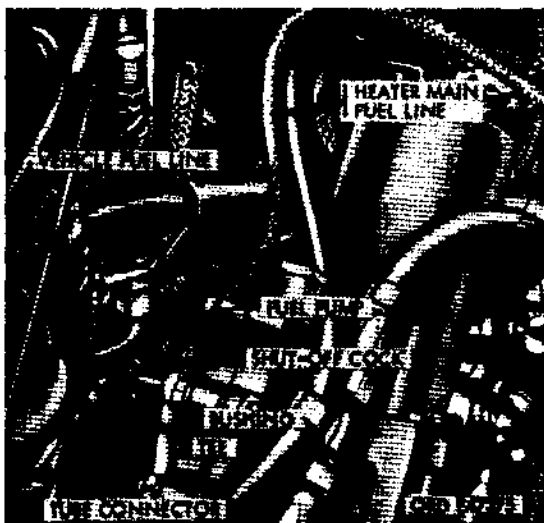

Figure 586. Heater main fuel line connected to fuel pump outlet
a. Install Heater Fuel Line (Fig. 586). Connect the heater fuel line to the fuel pump outlet
- (1) Disconnect the engine fuel line at the outlet of the fuel pump (fig. 586). Remove the tee from the heater main fuel line (fig. 585) and install it in the outlet of the fuel pump, turning the side outlet up, as shown in figure 586.
- (2) Install the inverted flared tube connector (fig. 586) in the side of the tee and connect the engine fuel line to the connector.
- (3) Remove the bushing and shutoff cock from the heater main fuel line (Y, fig. 585) and install in the tee (fig. 586).
- (4) Attach threaded end of the heater main fuel line (fig. 585) to the shutoff cock (fig. 586) leaving the other end free.